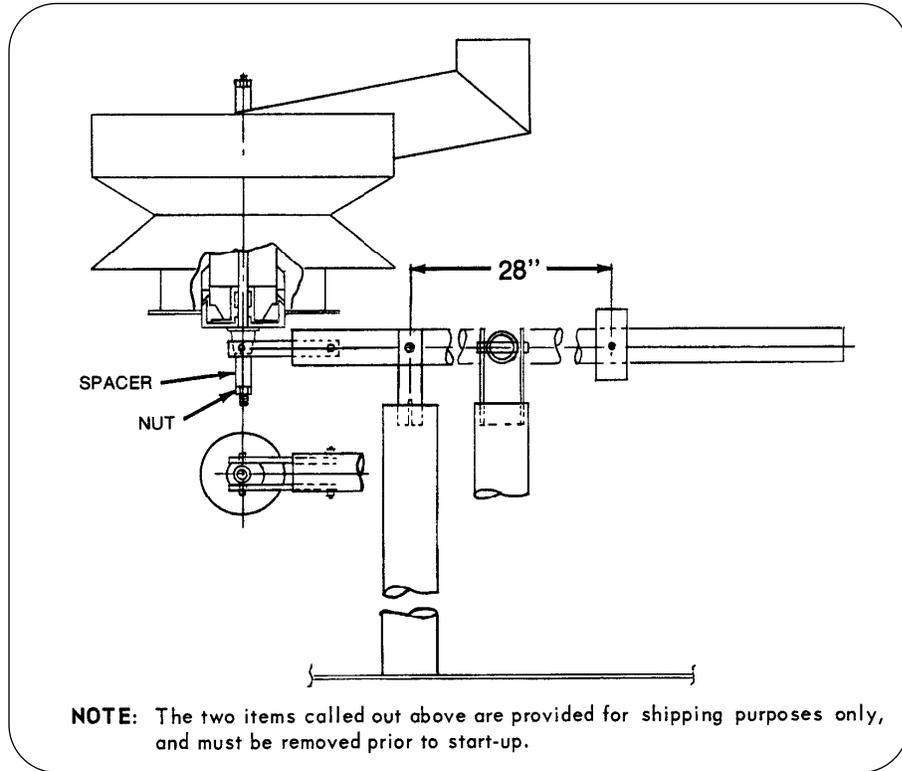

Figure 1-8. Shipping Configuration for Units Equipped with a Counterbalance System
**NOTE:** To prevent damage during shipment, the steam atomizing valve in those models using the counterbalance is fastened in the closed position as shown in Figure 1-8. The retaining spacer and nut must be removed prior